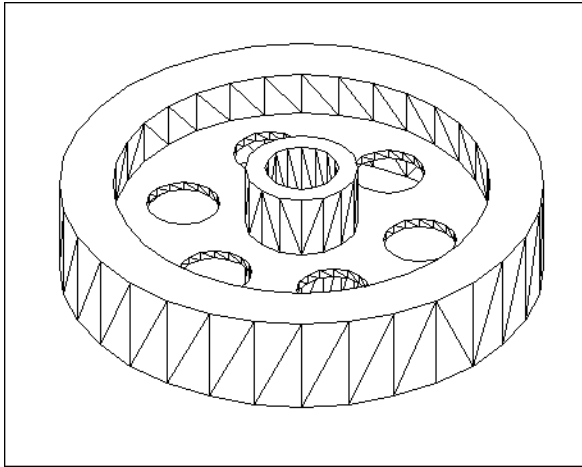

Figure 24-19: The final model after using the UNION command to create one object from three
10. Save your drawing. It should look like Figure 24-19. If you are continuing on to the next exercise, leave it open.